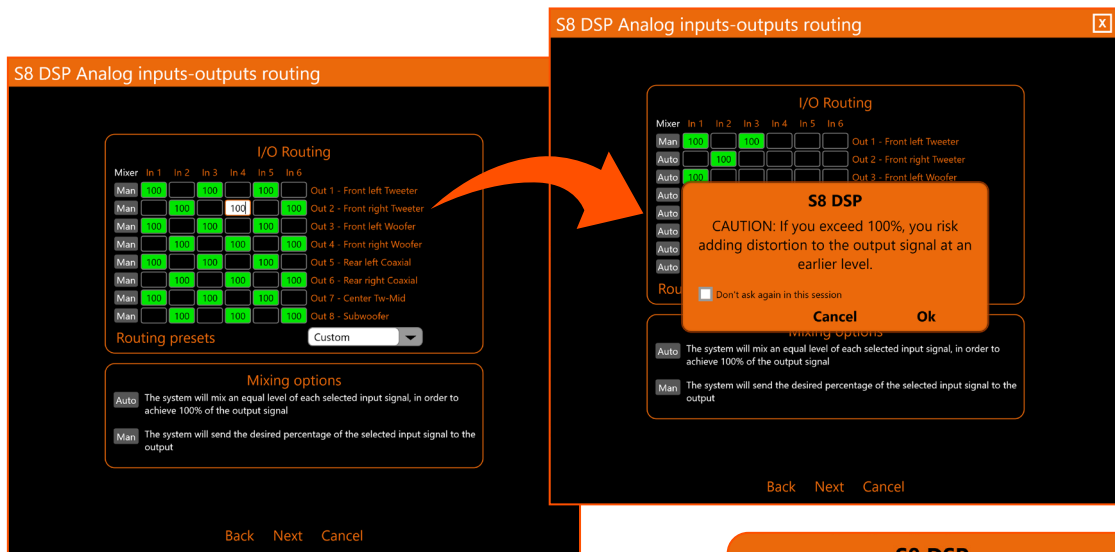

Fig. 2
E.g. If only one input is associated with an output, the software will set it to 100% (fig 1), while if several inputs are associated with a mono output (Eg. Subwoofer or Center), the software will set them in equal percentage (50% / 50%) so that their sum is 100%. (fig 2).